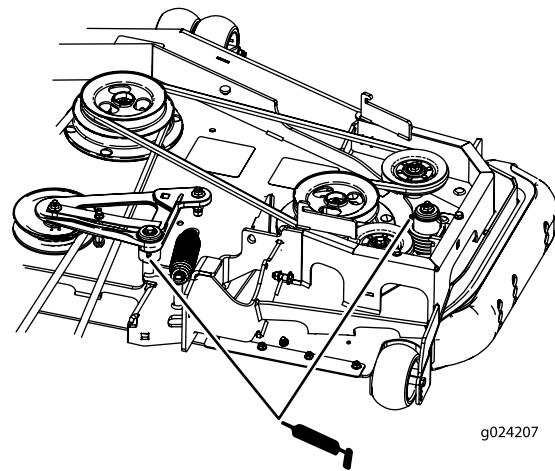

Figure 48
5. Grease the deck-belt idler arms (rear discharge machines only) as shown in Figure 48.